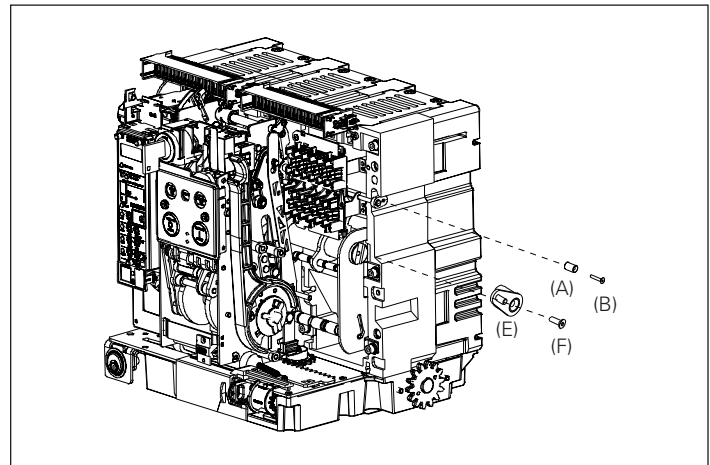
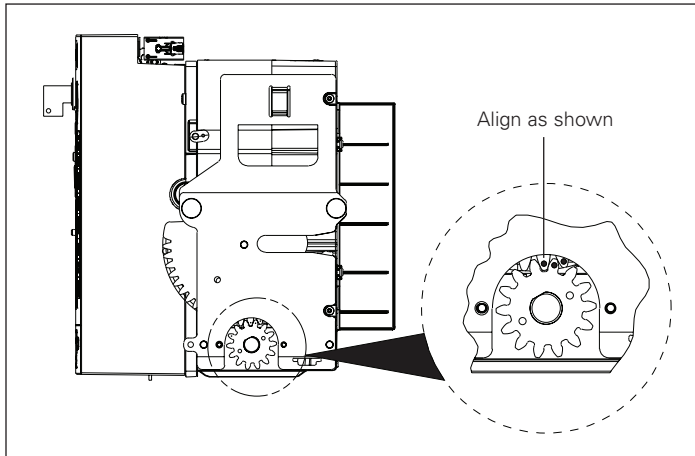

Figure 6. Details for Steps 3 and 4
Figure 7. Details for Step 4
Install the drive arm (E) to the end of the pole shaft using an M6 x 35 mm flathead screw (F). Apply Loctite Blue 242 to ensure that the screw cannot come loose during operation. The drive arm should be oriented as shown in **Figure 6**. Torque to 7,3–9,6 N·m (65–85 in-lb).
Install the trip pin (A) to the trip bar using an M3 x 16 mm flathead screw (B) as shown in **Figure 6**. Apply Loctite Blue 242 to ensure that the screw cannot come loose during operation. Use a wrench to hold the trip lever during installation. Torque to 0,3–0,6 N·m (3–5 in-lb). Replace levering device side plate as shown in **Figure 7**.